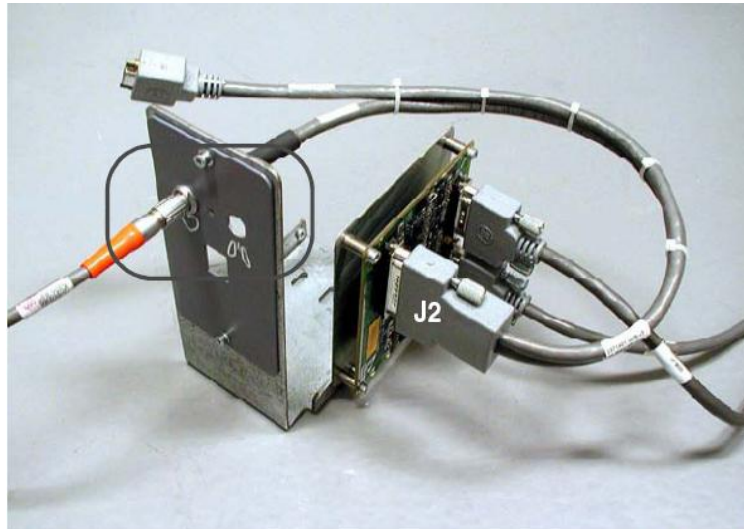
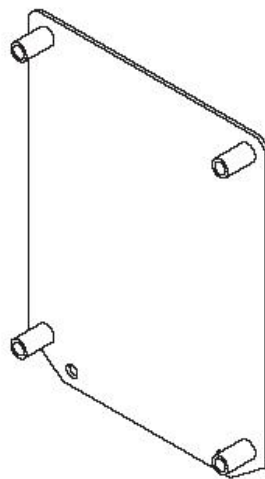

FIGURE 2-4 RIGHT SIDE MOUNTING BRACKET, WITH GO BOARD, BULKHEAD, AND CABLES
FIGURE 2-5 GANTRY OPTIONS BOARD MOUNTING BRACKET (BRACKET 2)
- Attach the “Y” cable (PN# 5199780) connectors to the bulkhead cover. (See Figure 2-4).
5. Attach the Gantry Options Board mounting bracket (Bracket 2, shown in Figure 2-5) to the base cover mounting bracket 1 (Refer to Figure 2-4).
- 6. Attach the Gantry Options (GO) Board to the mounting bracket (Bracket 2). Make sure that J2 is at the top of the board. (See Figure 2-4 for proper orientation.)